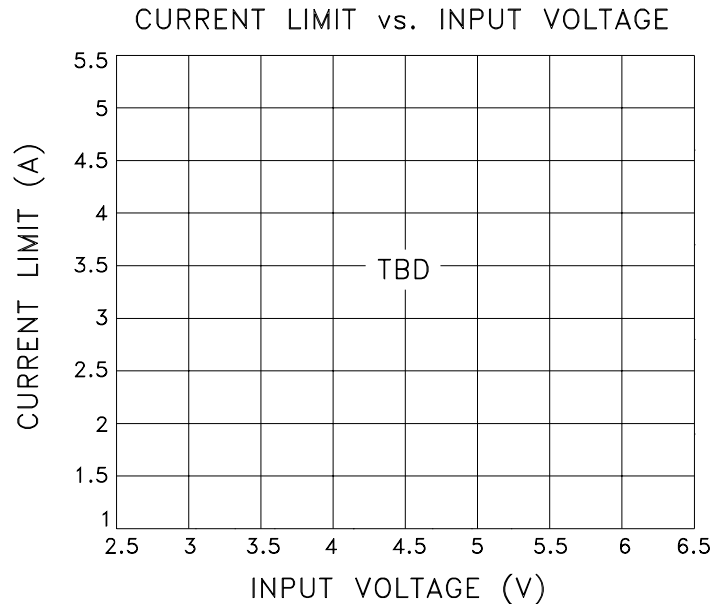

FIGURE 1
- ⑦ Output current limit is dependent upon the values of V_{IN} and V_{OUT}. See Figure 1 and typical performance curves.
- ⑧ Refer to typical performance curves.
- ⑨ Continuous operation at or above absolute maximum ratings may adversely effect the device performance and/or life cycle.
- ⑩ Pre and post irradiation limits at 25°C, up to 300Krad TID, are identical unless otherwise specified.
The MSK 5823RH current limit function is directly affected by the input and output voltages. Figure 1 illustrates the relationship between V_{IN} and I_{CL} for various output voltages. It is very important for the user to consult the SOA curve when using input voltages which result in current limit conditions beyond 3.5 Amps. When using input voltages which result in current limit above 3.5 Amps, the user must maintain output current within the SOA curve to avoid damage to the device. The current limit is adjusted internally for an input voltage of 3.3V.